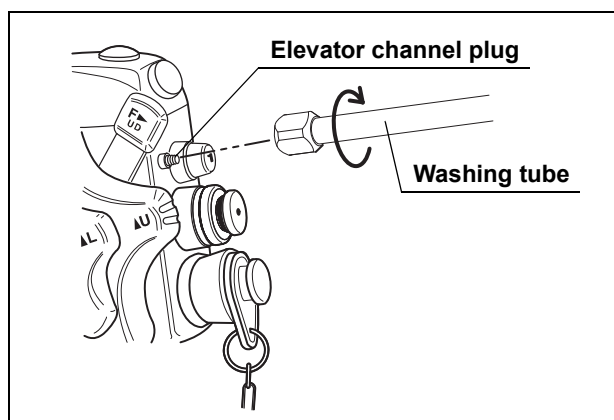

Figure 7.21
1. Connect the washing tube to the elevator channel plug (see Figure 7.21).